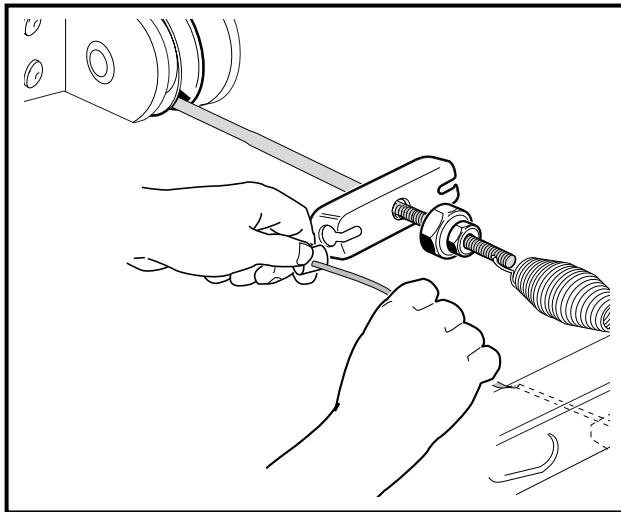
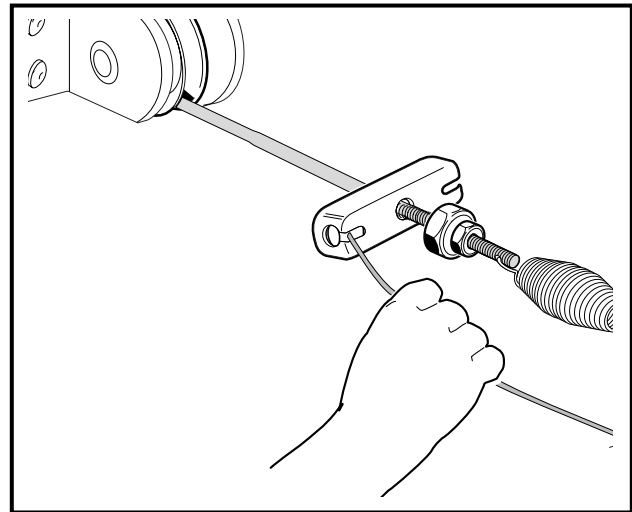

Figure 6-25 Position Wheel Brake Cable
Figure 6-26 Wheel Brake Cable Attachment
2. Pull a wheel brake cable to the side and remove the cable end from the keyhole opening in the park brake equalizer (**Figure 6-25, Page 6-34 and Figure 6-26, Page 6-34**).